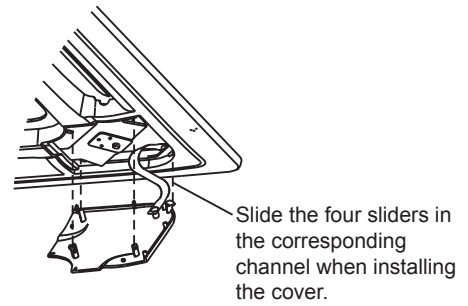

Fig. 4-21
- 2) Press the installation cover into the panel slightly. (Refer to fig.4-21)